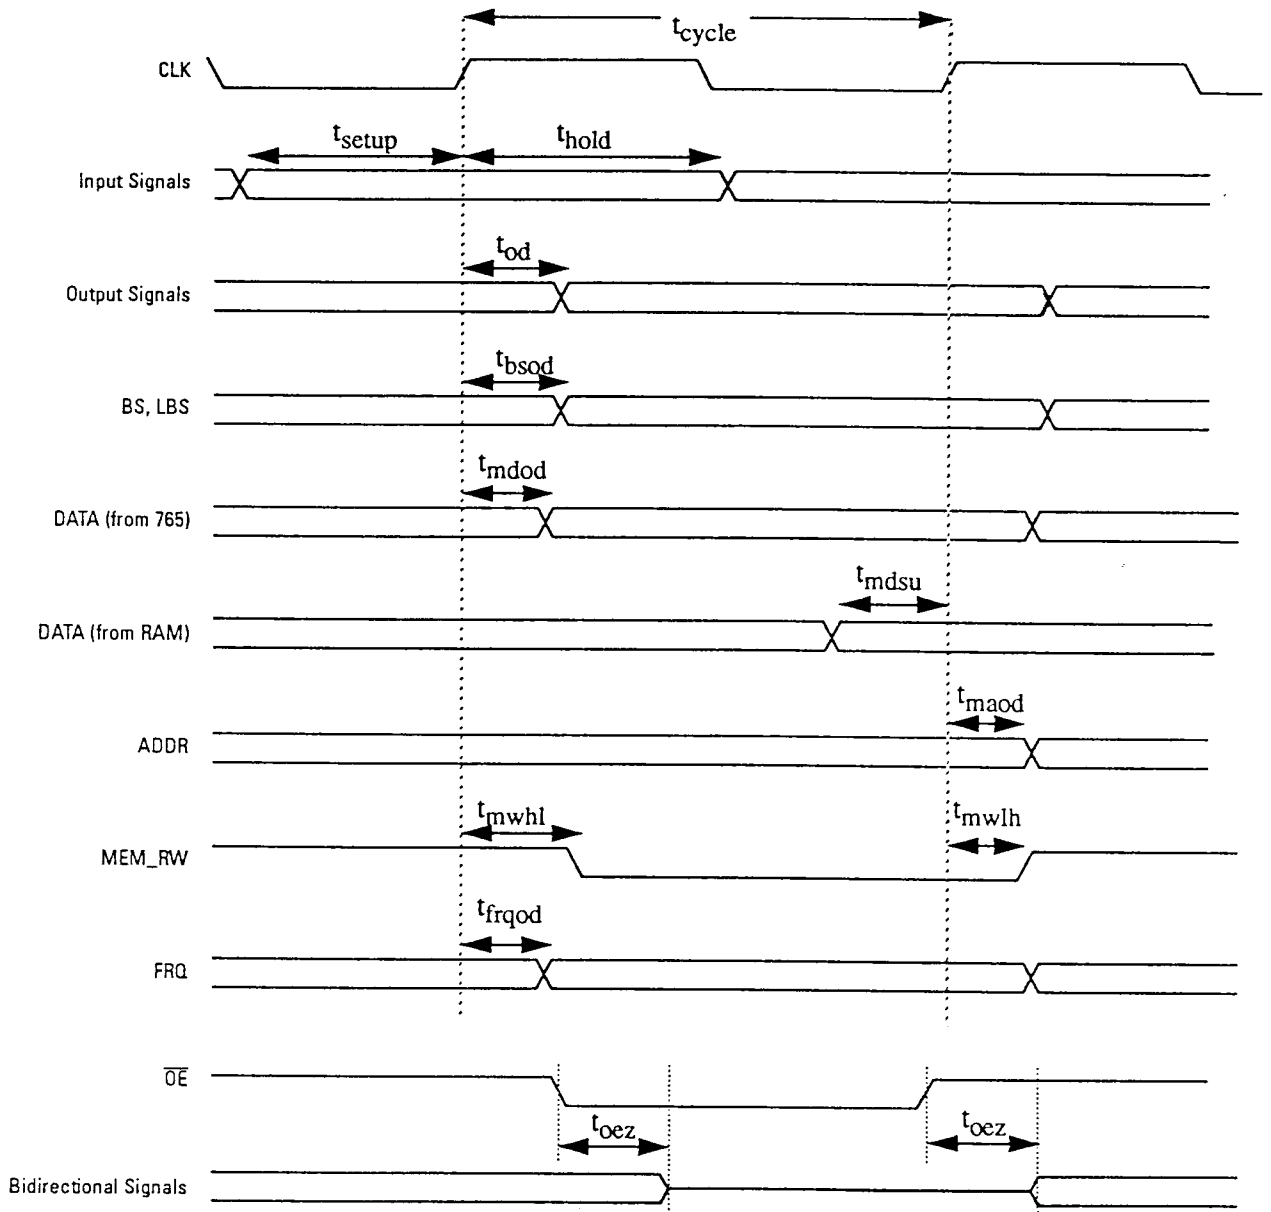

Figure 16. AC Timing Waveforms
- Figure 16, Write Timing Waveforms